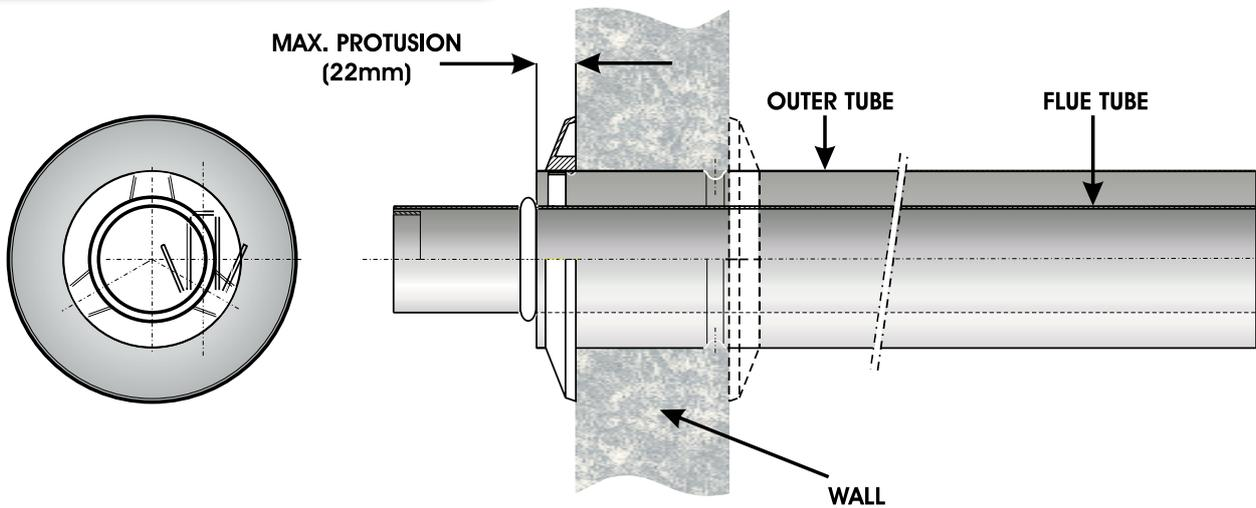

FIGURE 3
- 8.2.4 Figure 3 shows recommended terminal positions
- 8.2.5 It is recommended that the flue is fitted so that the outer part is flush with the wall. However, where this is not the case, the maximum protrusion of the outer part of the flue through the wall **MUST NOT** exceed 22mm (see figure 3)
- 8.3.6 Figure 3 shows recommended terminal positions.